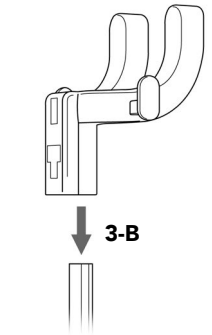

FIGURE 3
1. Look at underside of Pole Top to locate two guide ridges (FIGURE 3-A).
3. Slide Pole Top onto SECTION 1 of Telescopic Pole (FIGURE 3-B). Press down firmly until Pole Top fits securely in place.